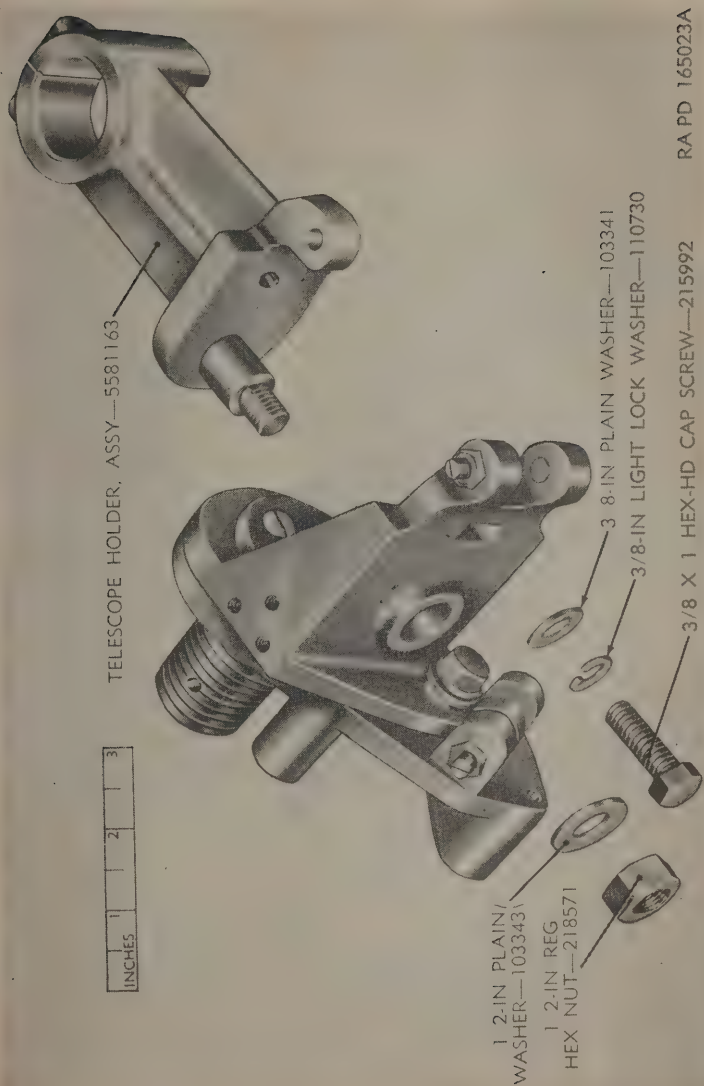

Figure 49. Telescope mount M42—removal of the telescope holder assembly and related parts—exploded view.
*b.* Unscrew the hex nut (fig. 49) from the telescope holder stud (figs. 49 and 51) and remove the plain washer (fig. 49).
c. Remove the hex-head cap screw (fig. 49) that passes through the telescope holder adjusting bracket into the telescope holder. Remove the plain washer and the lock washer (fig. 49) from the screw.
d. Lift the telescope holder assembly (fig. 49) from the telescope holder adjusting bracket.
(fig. 49)